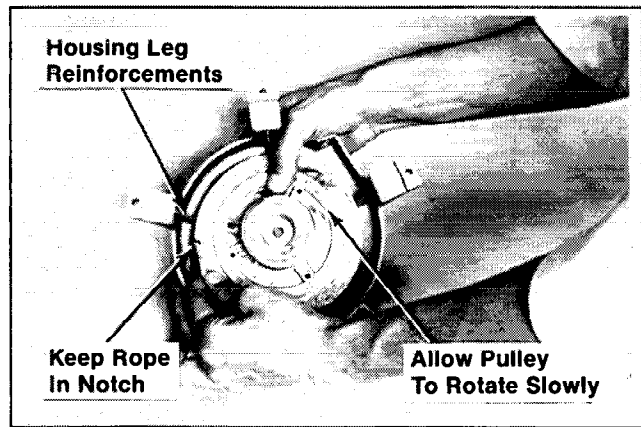

Figure 7-13. Releasing Spring Tension.
7. Hold the housing and pulley with both hands. Release pressure on the pulley and allow it to rotate **slowly** as the spring tension is released. Be sure to keep the rope in the notch. Refer to Figure 7-13.